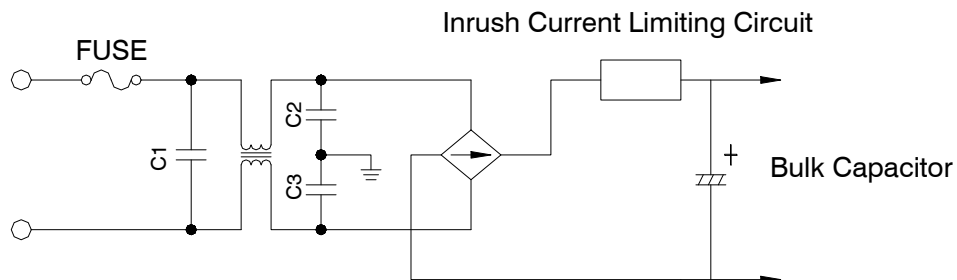

Figure 2.2: Circuit of input rectification and filtering
Leakage current is the current flowing from the protective earth (PE) conductor, such as metal enclosure, of equipments to frame ground (FG). Due to EMI requirements in S.P.S., there are Y capacitors (C2 and C3 in Figure 2.2) connected in between AC L/N and PE conductor. A low current will flow through the Y-caps to FG. In reality, leakage current should be regulated to comply with safety standards. In regulations of safety for IT products, leakage current should be less than 3.5mA for portable Class I equipment, 0.75mA for hand-held Class I equipment, and 0.25mA for Class II equipment.